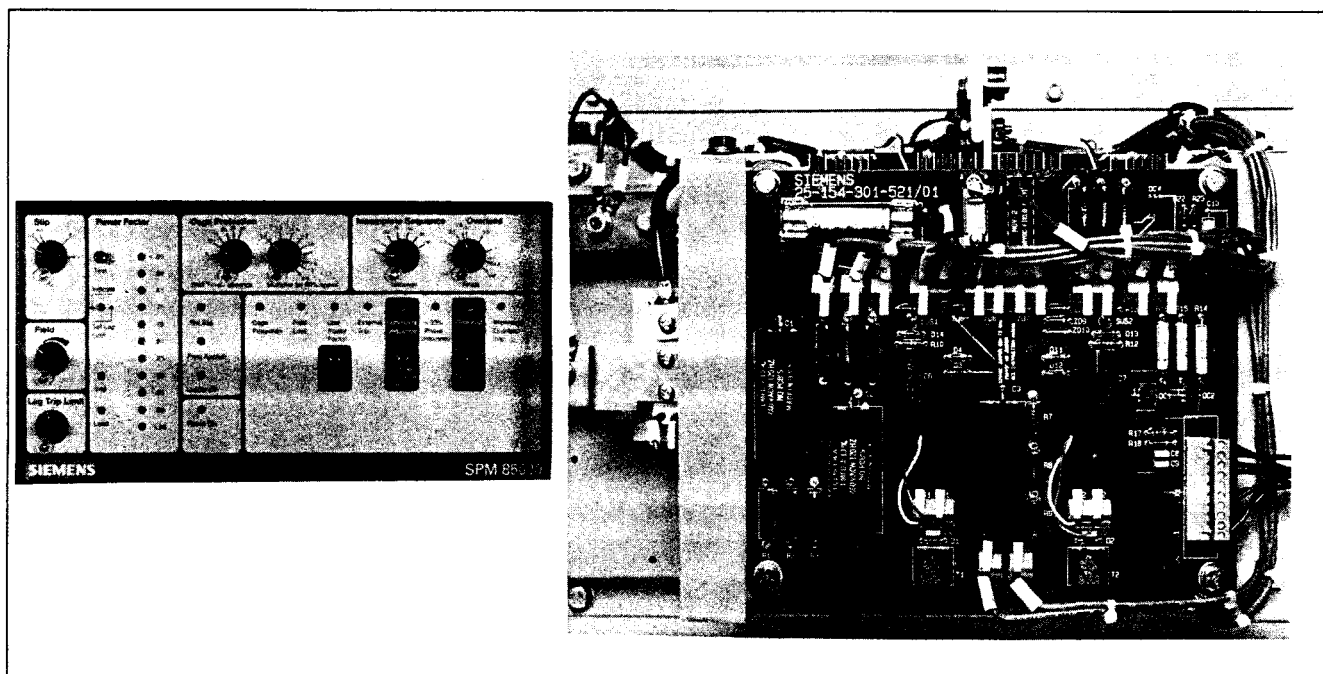
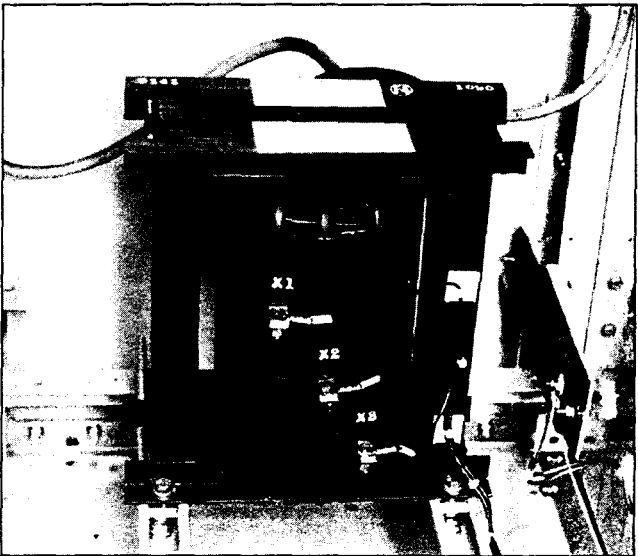
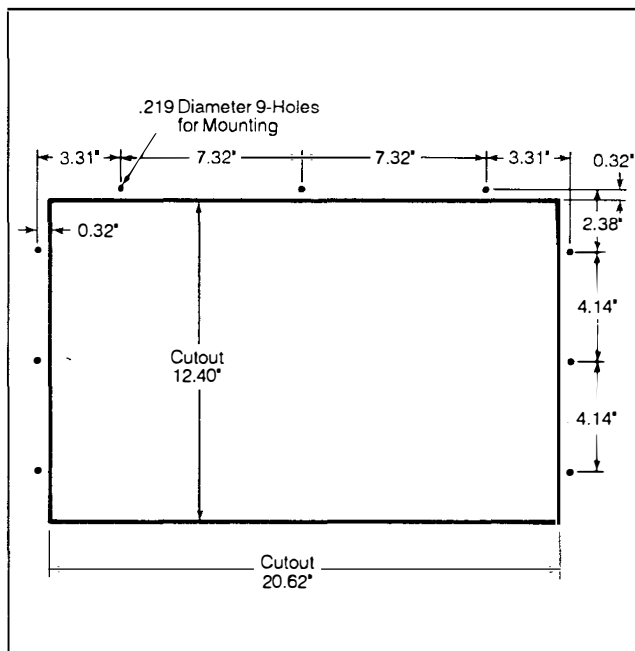
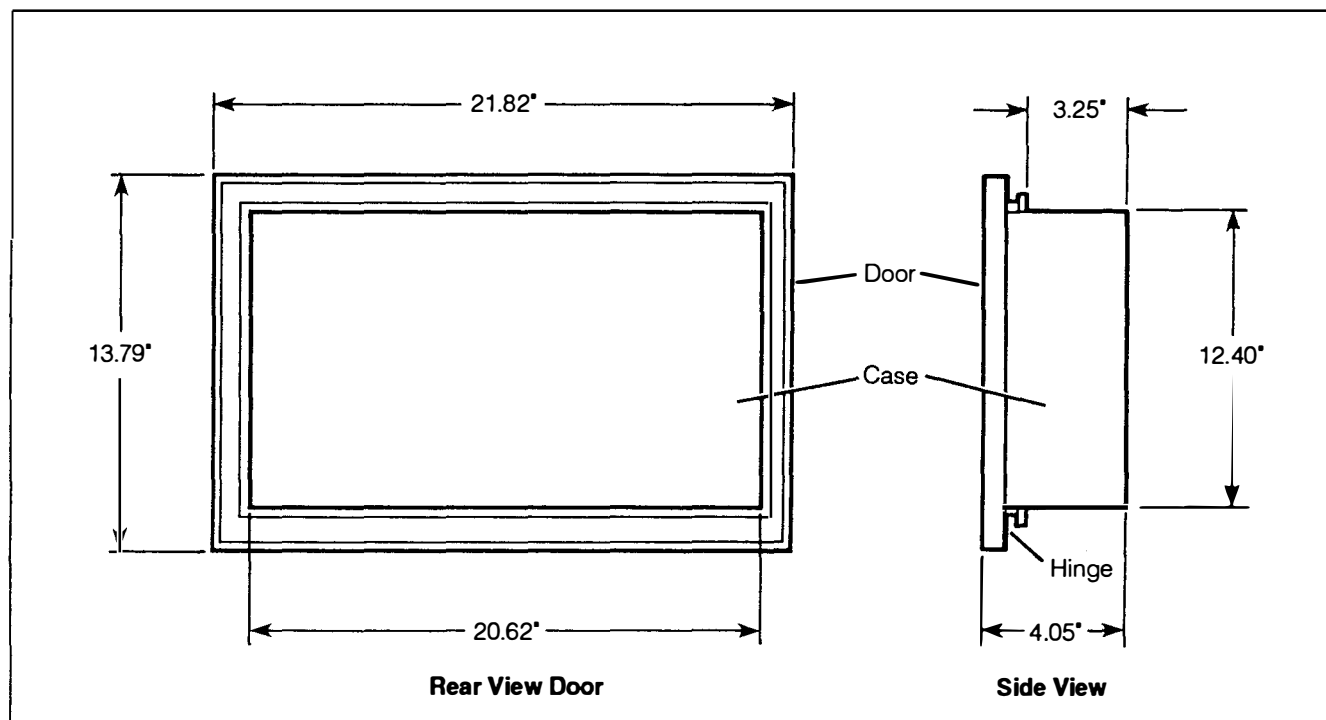

Figure 1. Control and Protection Module (C/P-M), shown with the Power Module (P-M).
Figure 3. Exciter Transformer
Figure 5. Door Cutout Configuration
Figure 6. Control and Protection Module (C/P-M) Outline Dimensions
The control and protection module is shown in **Figure 1**. This unit initiates and controls motor synchronizing, field application, and motor protection. It consists of a printed circuit board and front panel enclosed in a steel housing with a hinged front cover. The front panel contains settings, adjustments, and indicators. Wiring terminals are located on the bottom of the unit. The control and protection module is designed to mount on the compartment door of a motor control cubicle. The (C/P-M) module dimensions are shown in **Figure 6**.
The exciter transformer is a single phase power transformer with a center-tapped secondary winding which provides the motor field excitation. The secondary voltage rating is specially selected for use with the SCR controlled power module. An exciter transformer is shown in **Figure 3**. Exciter transformer overall dimensions vary with kVA rating and are listed in **Figure 8**.
Use the special wire harness provided with the equipment for this interconnection. The steel mounting base of the power module (5) must be grounded to the enclosure either through its mounting means or with an additional grounding connection. The exciter transformer, shown in **Figure 3**, should be isolated from the rest of the control equipment since its primary winding is energized with line voltage. The control and protection module should mount to the enclosure door as shown so that indicating lights are visible and settings and adjustments can be performed with the enclosure door closed. Refer to **Figure 5** for the door cutout configuration. **Figures 6, 7, and 8** show outline dimensions for the C/P-M, the P-M, and the exciter transformer respectively.